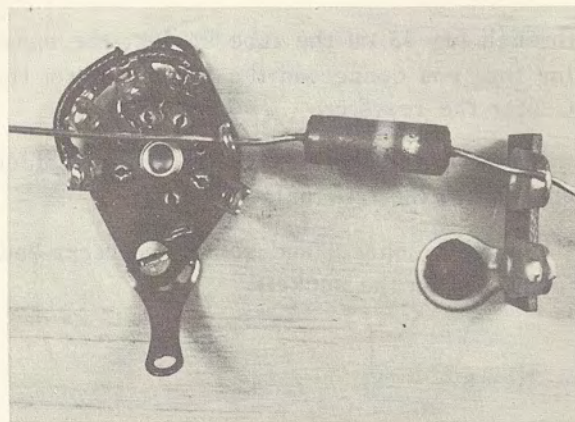

Fig. 2-10
Step 2. Insert the wire lead on one end of one resistor in lug #5 on the tube socket. Then, insert the wire on the other end of the resistor through either one of the lugs on the tie terminal. Center the resistor in the space between the tube socket and the tie terminal, as shown in Fig. 2-10.